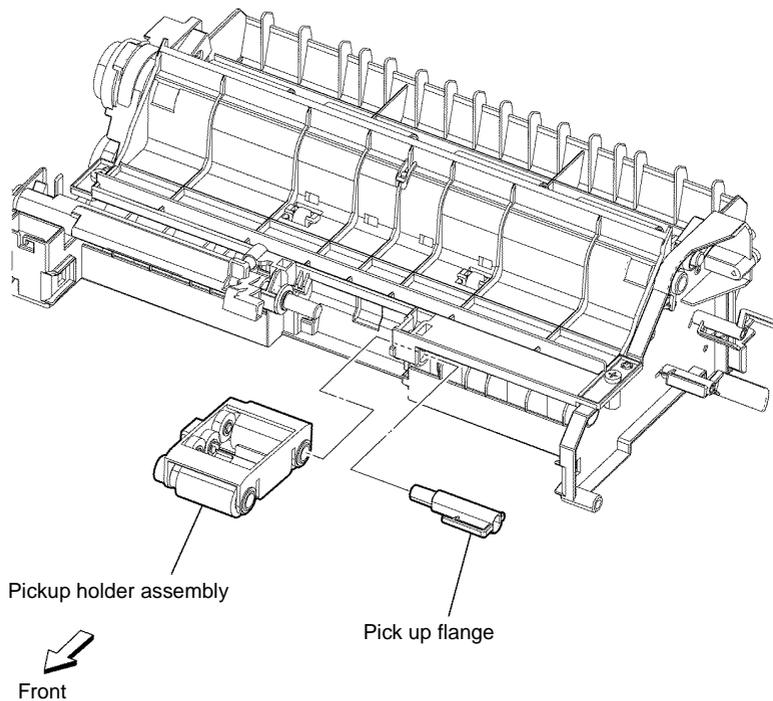

Figure 1 Pickup holder assembly removal
2. Remove the pick up flange, then remove the pickup holder assembly, Figure 1.